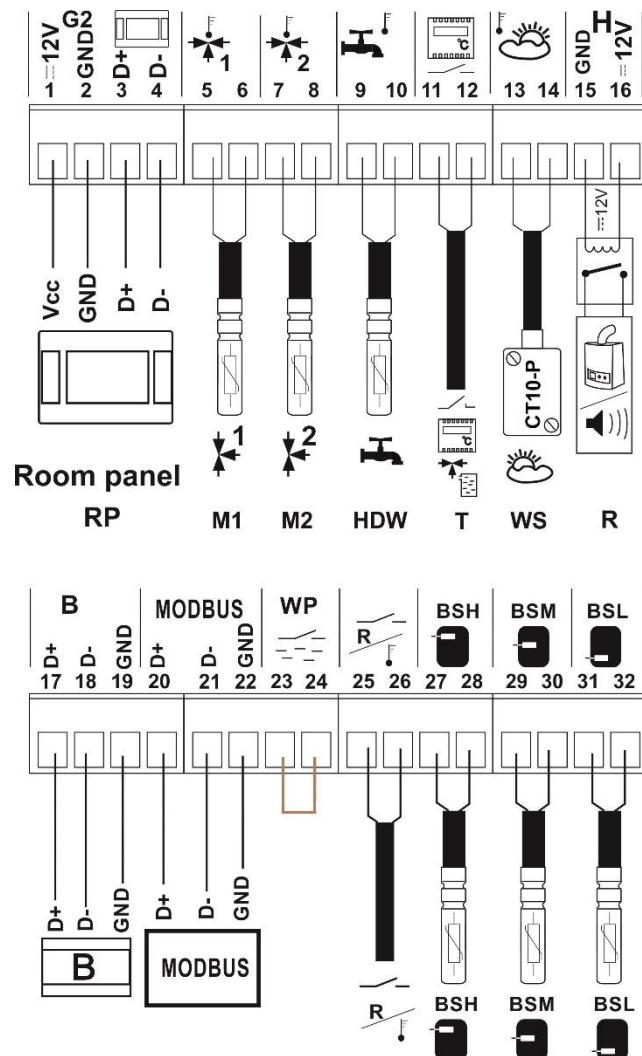

Figure 24. Wiring diagram of sensors and room panel
Connect the appropriate external sensor to the corresponding terminals on the switchboard (see Figure 24) and place the measuring element at the desired location in the heating system. The sensor cable must not be in contact with hot surfaces of the boiler or heating system and must be secured against pulling out.
The sensor is connected by a cable with a minimum cross-section of 0.5 mm2, maximum 25 m long. The polarity of the wires is not important. Connect the free end of the cable to terminals 13-14 (see Figure 24) on the left wall of the controller cabinet.
- connect the Mixer temperature sensor on the left wall of the controller cabinet (see Figure 24)
Connect the thermostat to terminals 11-12 (Figure 24) on the left wall of the controller cabinet. After installation, the room thermostat needs to be enabled in the menu to control the mixed heating circuits: